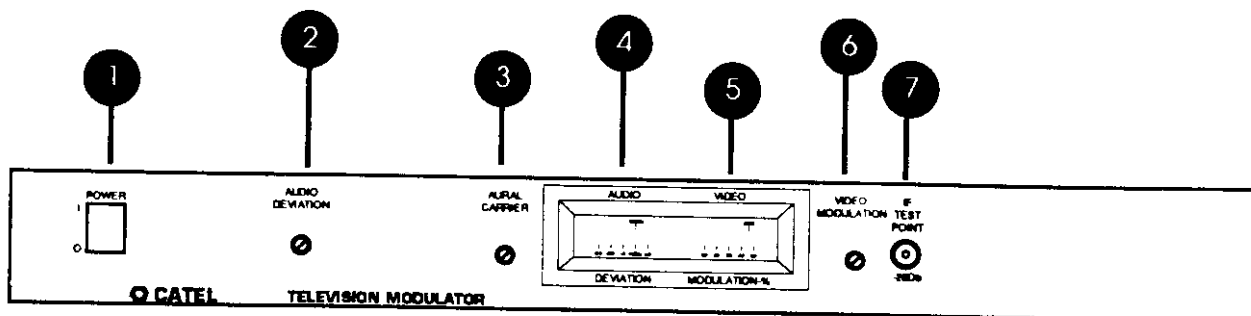
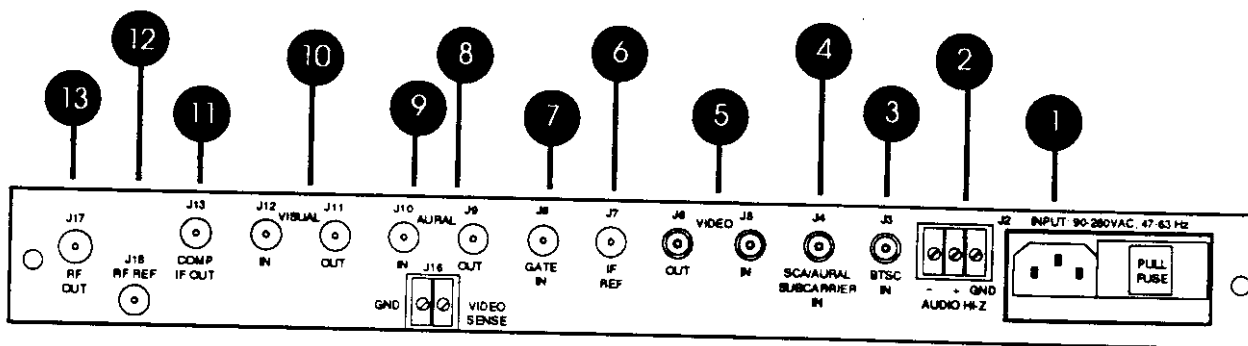

Figure 2-2
Figure 2-3
The ATM-1600 Broadcast Television Modulator chassis is designed for installation in standard (EIA) 19 inch racks, and occupies one (1) vertical mounting space (1.75 inches high). User adjustments, monitor points and bar graph modulation meters are located on the chassis front panel (refer to Figure 2-2). The input and output connectors are located at the rear along with an AC power input block and fuse holder (refer to Figure 2-3).
The ATM-1600 front panel, its indicators, the possible adjustments, and the connectors available are shown in detail in Figure 2-2
The ATM-1600 rear panel, its connectors, their uses, and loops required to implement special options are shown in detail in Figure 2-3.